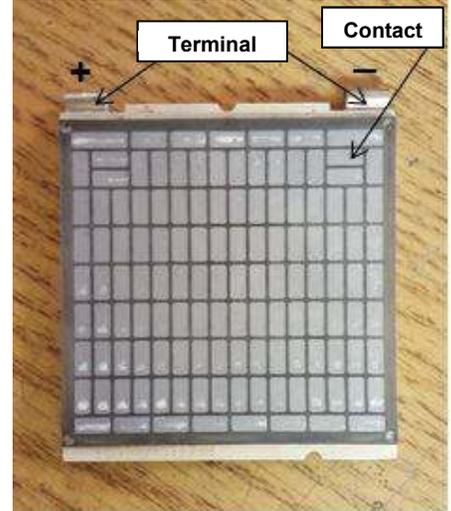
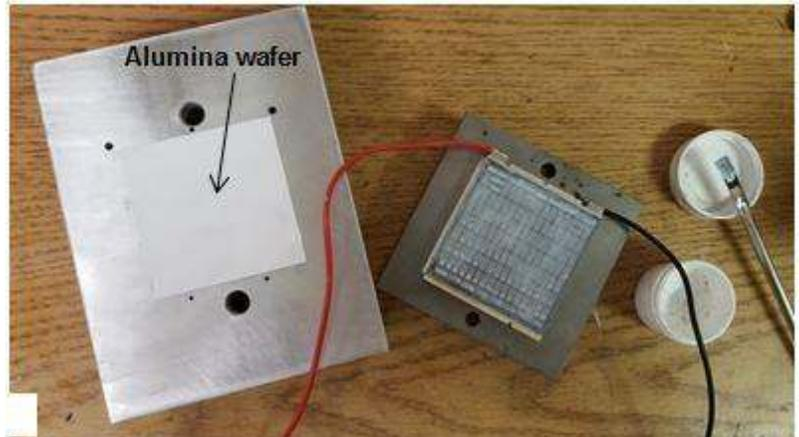
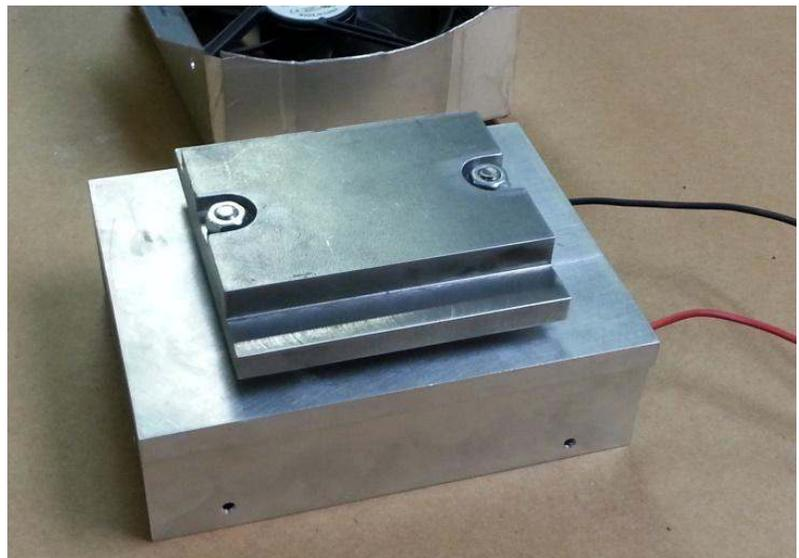

Figure 1: HZ-14 High Voltage
Figure 5: Module insulation
Figure 6: Assembled Test Fixture
1. **HOT AND COLD SIDE IDENTIFICATION:** Figure 1 exhibits the HZ-14HV module cold-side up. There are two terminals on the top of the module, as shown in the figure. The terminal on the left is positive (+) and the terminal the right is the negative (-). These are labeled in Figure 1.
6. The heat sink and heat source should have a thermocouple wells (shown in **Figure 6**) drilled into them. This is needed to accurately measure the temperatures as they change.
10. You will need insulators on either side of the module because electrical current flows through the module contacts (labelled in **Figure 1**). Alumina (Al_2O_3) wafers, as shown in **Figure 5**, are ideal for this purpose.
11. Assemble with the module with insulators in between the hot surface and the cold surface with the insulators on either side of the module as shown in **Figure 6**. Take extra care to make sure that the hot side of the module is facing the heat source and the cold side of the module is facing the heat sink. The module shown in **Figure 5** is facing hot side down because that is the side that will face the heat source.